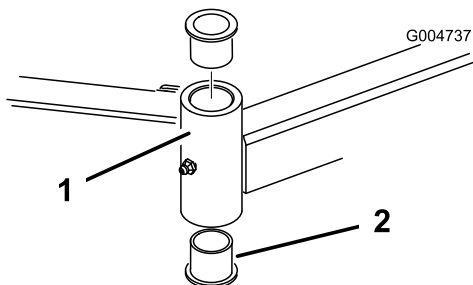

Figure 27
4. Insert a pin punch into the top or bottom of the mounting tube and drive the bushing out of the tube (Figure 27).